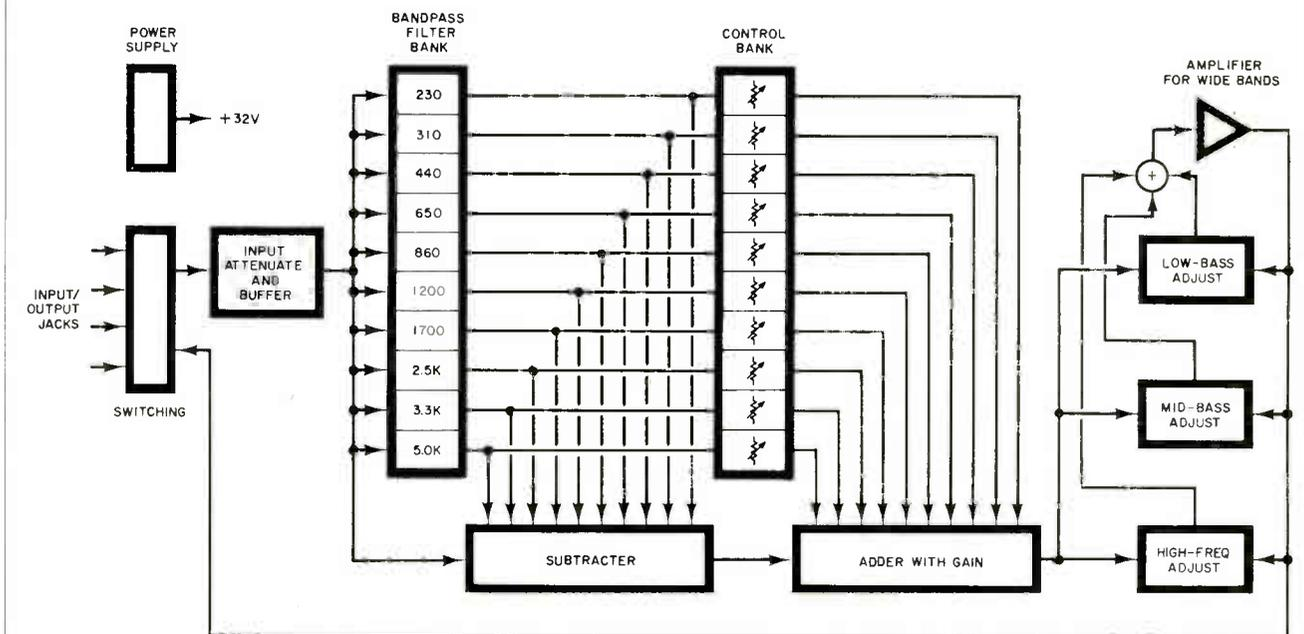

Fig. 1. Block diagram of the Equalizer. Midband frequency selection is made by filter bank.
**Circuit Operation.** Figure 1 is a block diagram of the Optimized Equalizer. The midband frequency selection is done by the filter bank. Since the filters have gain, the signal is attenuated at the input. This prevents even the largest signals at the tape monitor terminals of your amplifier from causing clipping of the filters. By subtracting three-quarters of the signal using the filter outputs, the result is a gain of -12 dB at the filter center frequency. Next, a variable amount of the filter output is added back to the signal. When the control is set to 0 dB, the added signal cancels the subtracted signal exactly for flat frequency response.